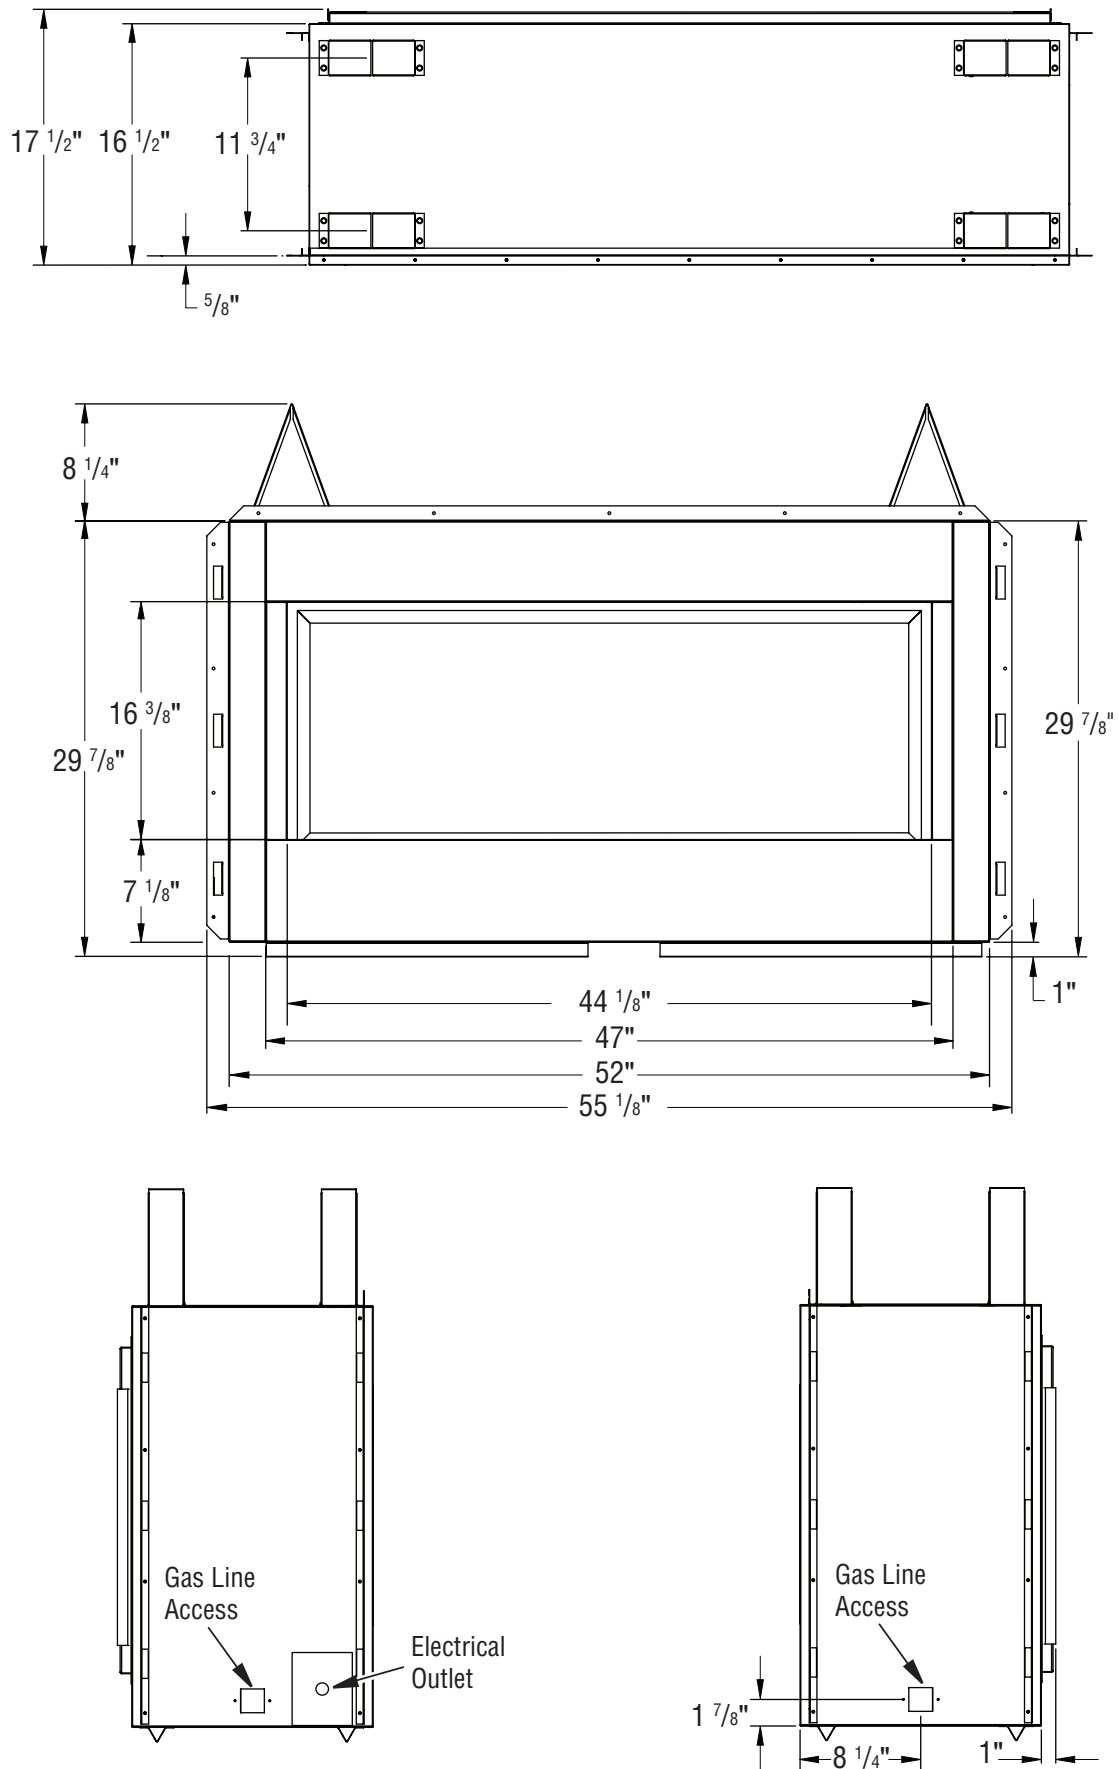

Figure 8 - ParisLights43 Series Dimensions
*Please refer to overall fireplace width (Figure 8, page 9) before rough framing construction.